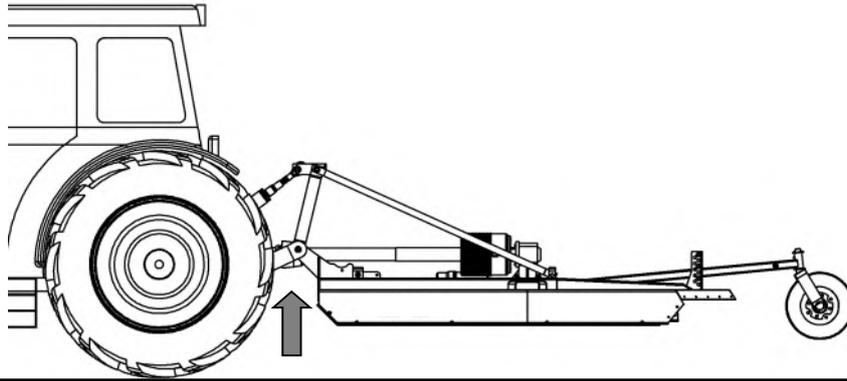

Figure 6
- Raise the machine off ground using tractor hydraulics (*Fig.6*).